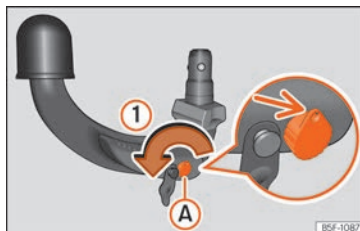

Fig. 252 Step 1.
- Turn the key in the direction of arrow ① until the part of the key with the holes reaches the top position »» Fig. 252 (arrow).